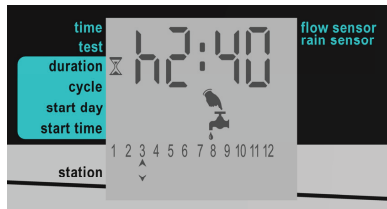

Figure 15: Duration Screen Example
1. Press **C** until the Duration screen is displayed (Figure 15).
In Figure 15, the duration set is for 2 hours and 40 minutes for station 3. A duration of 0:00 sets the station to never open its valves (and therefore the sequence skips to the next station immediately).